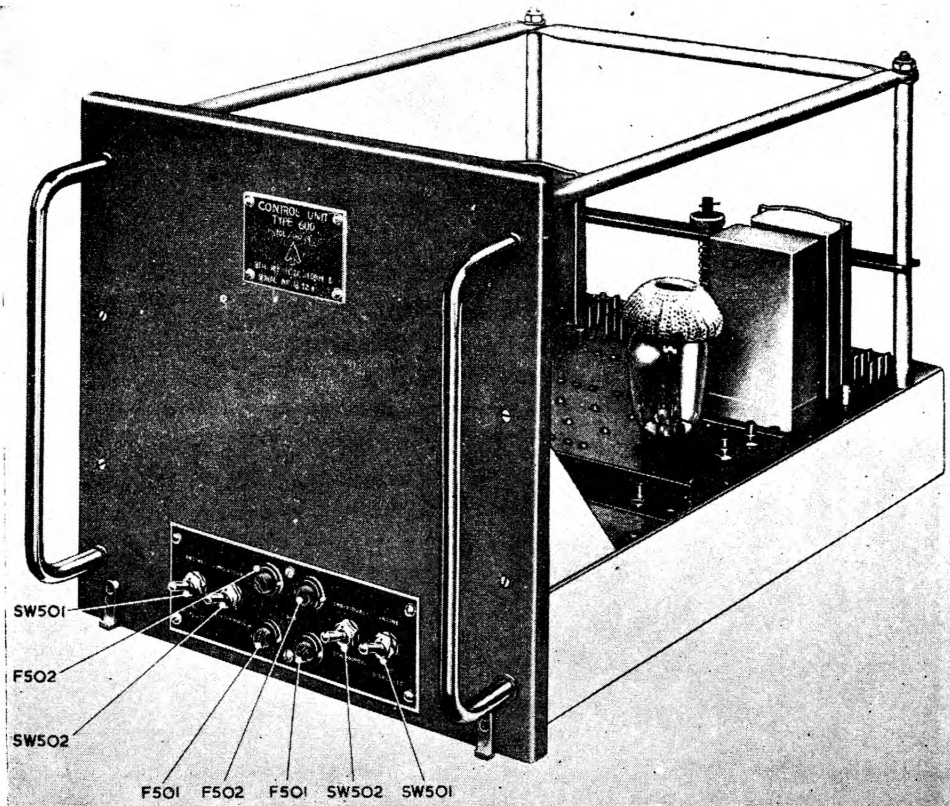

Fig. 1. Control unit Type 600—front
5. Fig. 1 gives a front panel view of the chassis, while fig. 2 gives a plan view and fig. 3 an underside view. The annotated components may be identified on the circuit diagram (fig. 4). On the circuit diagram the main interconnections with the external controls, and with the servo amplifier, are shown in broken line.